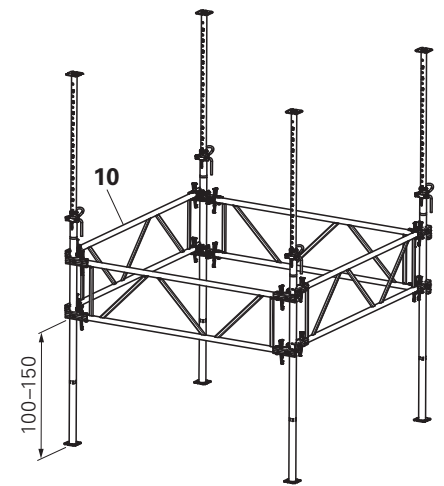

Fig. A1.06
2. Insert pre-assembled slab prop between the fastener and clamping jaws. (Fig. A1.06)
3. Close clamping jaw and push wedge downwards. Every frame has 4 fasteners each with one wedge (top and bottom as well as right and left). (Fig. A1.06 + A1.06a)
- (Fig. A1.06 + A1.06a)